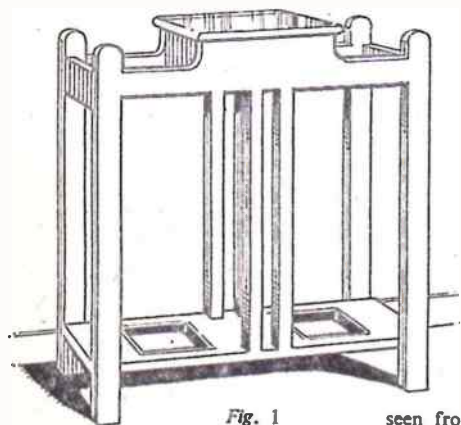

Fig. 1
The legs (A), shown in the diagrams and details of the stand at Figs. 1 to 6, are 30ins. long by 1½ins. wide by ½in. thick. The top of the legs are cut to a simple curve with the fretsaw and finished smooth with glasspaper. Mortises will be cut in two faces of each leg to take the tenons of rails (B) and (C). The position of the latter rails may be
add a little character, as seen in the sketch Fig. 1. However, they will not be seen much when the stand is in use. Long countersunk brass screws make an easy fixing between the bottom board and the legs, the heads of the screw holes being filled with putty or other suitable filling. The box at the top of the stand will be found useful for gloves, etc., and it is